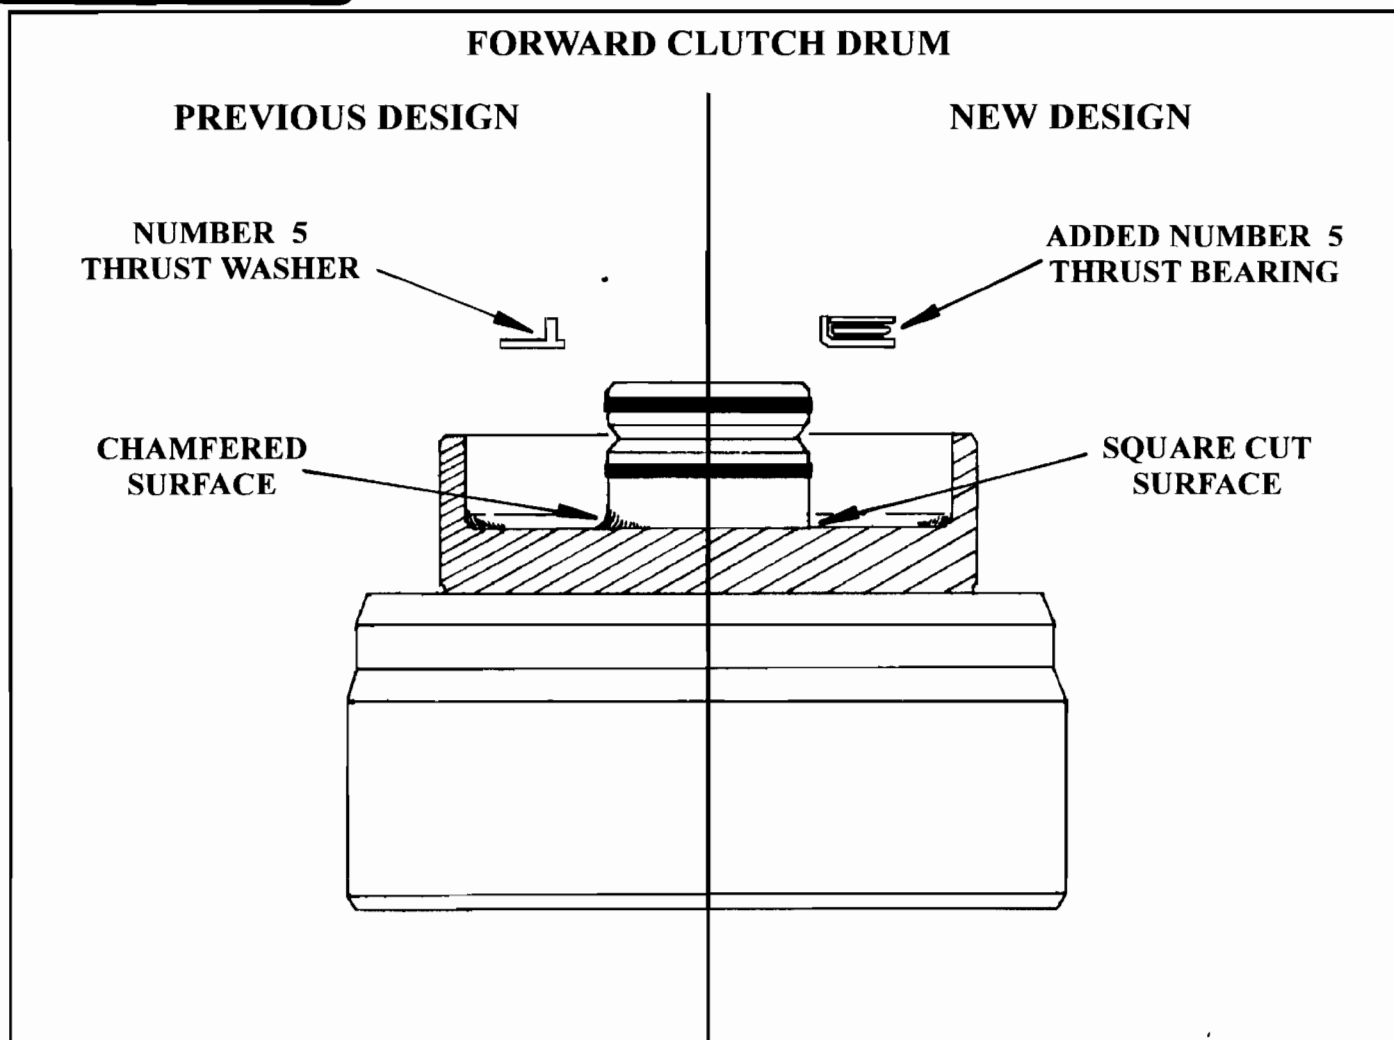

Figure 21
- (5) **FORWARD CLUTCH DRUM** - Was machined at the base of the sealing ring hub to eliminate the chamfer, and provide a flat surface to accommodate the added number 5 thrust bearing, as shown in Figure 21.
(See Figure 21).